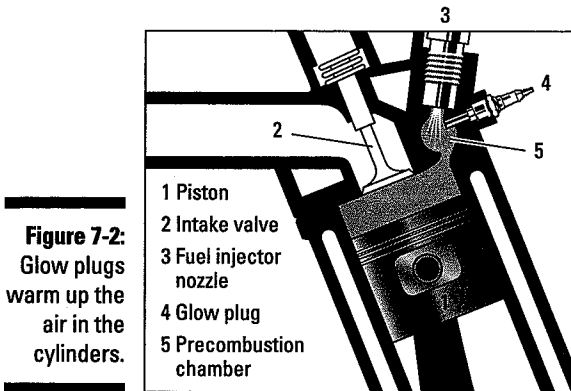

Figure 7-2:
1. When you first turn the key in the ignition, you're asked to wait until the engine builds up enough heat in the cylinders for satisfactory starting. (Most vehicles have a little light that says, "Wait," but a sultry computer voice may do the same job on some vehicles.) When you turn the key, the glow plugs kick in and begin to warm up the air in the cylinders. (See Figure 7-2.) Usually, you don't have to wait long — probably no more than half a minute in moderate weather. Developments in glow plugs have dramatically reduced starting time.
6. As you've read, turning the key started the glow plugs warming up the air in the cylinders. On many engines, the glow plugs are located right in the combustion chambers of the cylinders. On others, they have been placed in little precombustion chambers (refer to Figure 7-2), which the glow plugs can heat more quickly and easily.